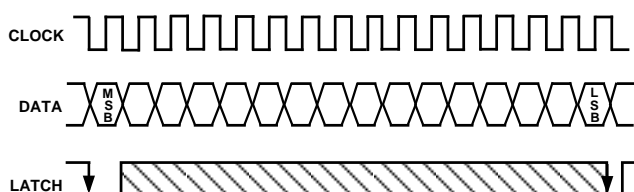
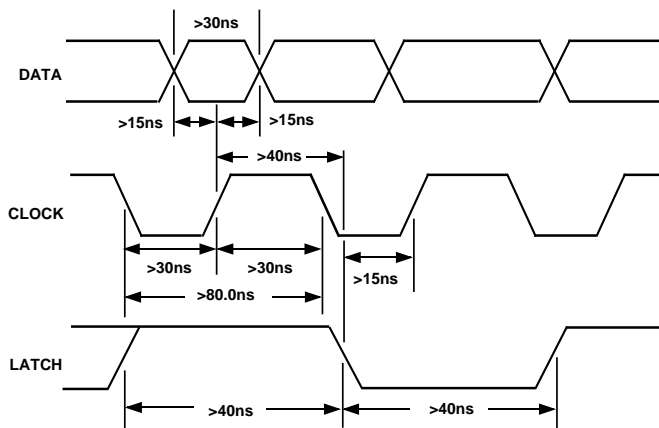

Figure 5. Signal Requirements for AD1851
Figure 6. Timing Relationships of AD1851 Input Signals
Data is transmitted to the AD1851 in a bit stream composed of 16-bit words with a serial, MSB first format. Three signals must be present to achieve proper operation. They are the Data, Clock and Latch Enable (LE) signals. Input data bits are clocked into the input register on the rising edge of the Clock signal. The LSB is clocked in on the 16th clock pulse. When all data bits are loaded, a low-going Latch Enable pulse updates the DAC input. Figure 5 illustrates the general signal requirements for data transfer to the AD1851.
Figure 6 illustrates the specific timing requirements that must be met in order for the data transfer to be accomplished properly. The input pins of the AD1851 are both TTL and 5 V CMOS compatible. The input requirements illustrated in Figures 5 and 6 are compatible with data outputs provided by popular DSP filter chips used in digital audio playback systems. The AD1851 input clock can run at a 12.5 MHz rate. This clock rate will allow data transfer rates for 2x, 4x or 8x or 16x oversampling reconstructions.